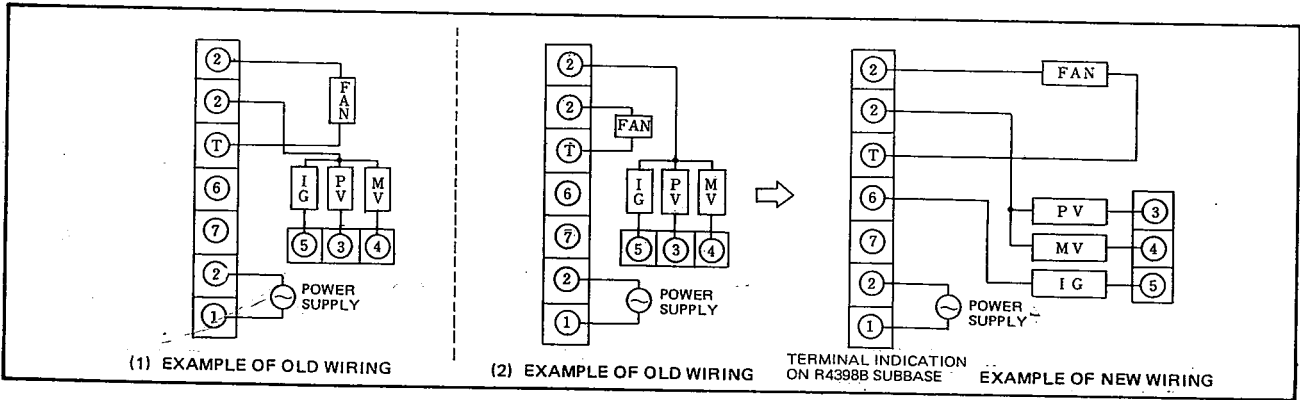

Fig. 6 Method of changing over wiring (when using R4398B subbase)
- (1) Remove R4398B from the subbase.
- (2) Sometimes, in the case of a 200 VAC type R4398B, a green capacitor is connected between terminals ② and ⑥ of the subbase. If there is such a capacitor, remove it.
- (3) Confirm that the wiring to the subbase is either (1) or (2) shown in Fig. 6.
- If the wiring is as shown in (1), leave it as it is.
- If the wiring is as shown in (2), change it over to the configuration in the drawing at right indicated by the arrow.
- If the wiring is other than (1) or (2), change it to the configuration in the drawing at right.
- (4) Plug the R4750B into the subbase, then tighten the cover retaining screws. This completes the change-over work.